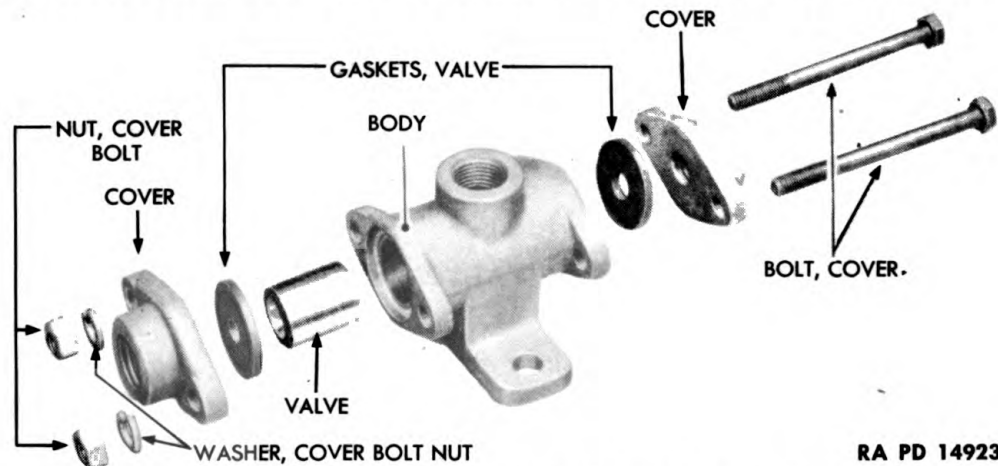

Figure 71—Cab Double Check Valve—Exploded View
b. **Procedure.** Remove two bolts, nuts and lock washers which hold the two covers to body (two $\frac{7}{16}$ -in. open-end wrenches) (fig. 71). Pull bolts out of the two covers and body. Lift two covers off body and remove valve gasket from each end of body. Slide valve out of body. Press valve sleeve from body (hydraulic press).
b. Procedure. Press valve sleeve in body (hydraulic press). Slide valve into body (fig. 71). Install a valve gasket at each end of body. Install a cover on each end of body. Insert the two bolts through cover and body. Install two lock washers and nuts (two $\frac{7}{16}$ -in. open-end wrenches).